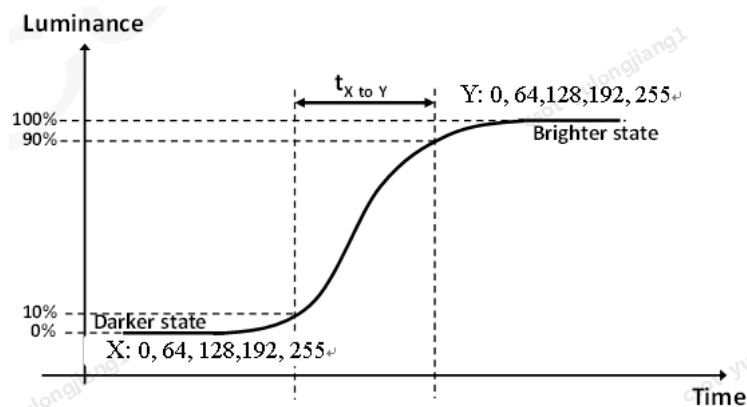

Fig. 6.4 The definition of $t_{X \text{ to } Y}$
- (3) Response time T_L is defined as the average transition time in the response time matrix. The table below is the response time matrix in which each element $t_{X \text{ to } Y}$ is the transition time from Gray level X to Y. X and Y are two different Gray levels among 0, 64, 128, 192, 255. The transition time $t_{X \text{ to } Y}$ is defined as the time taken from 10% to 90% of the luminance difference between X and Y ($X < Y$) as illustrated in Fig.6.4. When $X > Y$, the definition of $t_{X \text{ to } Y}$ is the time taken from 90% to 10% of the luminance difference between X and Y. The response time is optimized on refresh rate $F_R = 60\text{Hz} \& \text{Max}$.